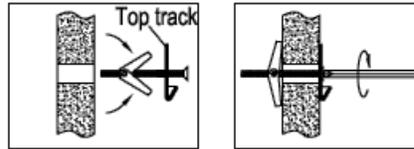

Fig. B-1
- Hang Rail Assembly: (Fig. B-1)
12. Assemble (2) 63" Long Hang Rail assembly which consists of 3 parts, (1) Top Hang Rail section with hang slots. (2) Bottom Hang Rail section and (3) Hang Rail Connector with 2 bolts.